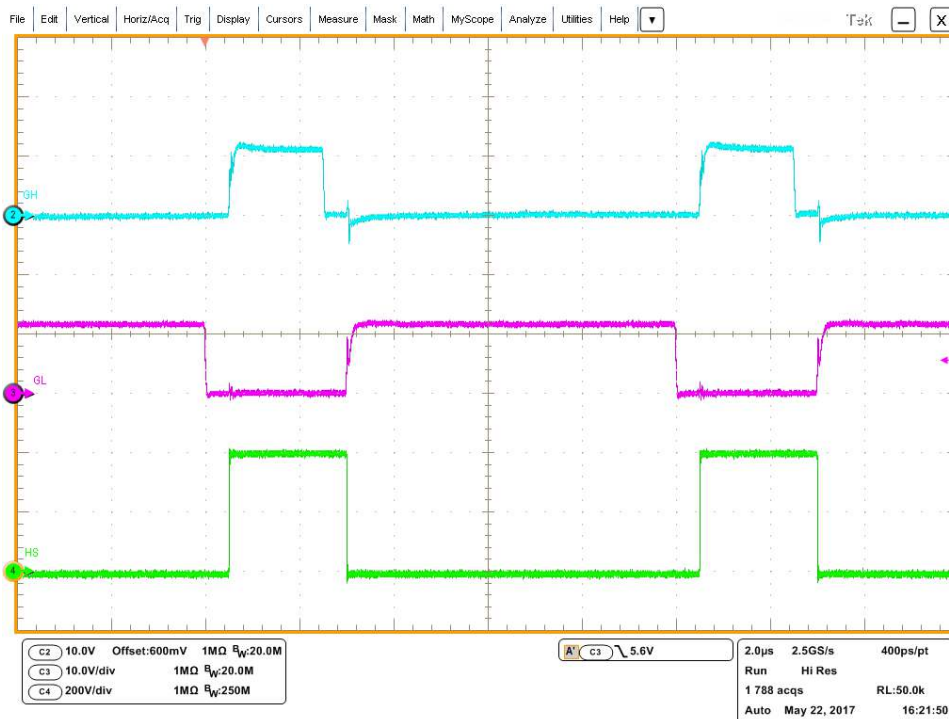

Figure 3. GH, GL and HS, VHV = 400 V
- (a) A stable pulse output on channel-2, channel-3, and channel-4 on the oscilloscope, refer to Figure 3